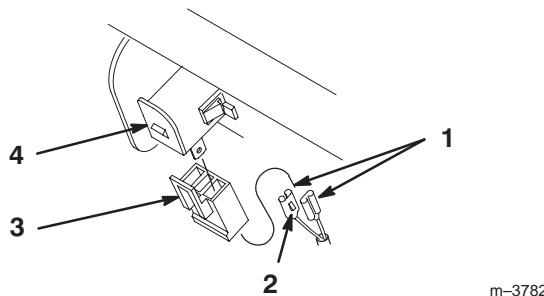

Figure 4
- Insert terminals into plastic plug until the clips snap into position (Fig. 4). If they do not snap turn around.
- Push plug onto switch so latches interlock (Fig. 4).